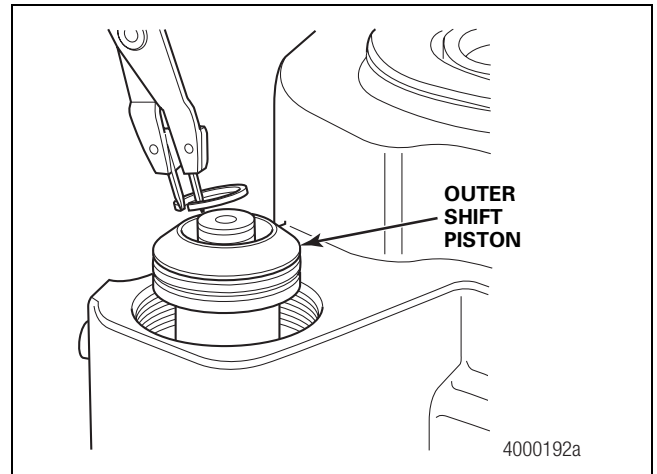

**Figure 4.3**
4. With the front input yoke still installed, remove the yoke, input shaft, input bearing cage and pump as an assembly. Figure 4.3.